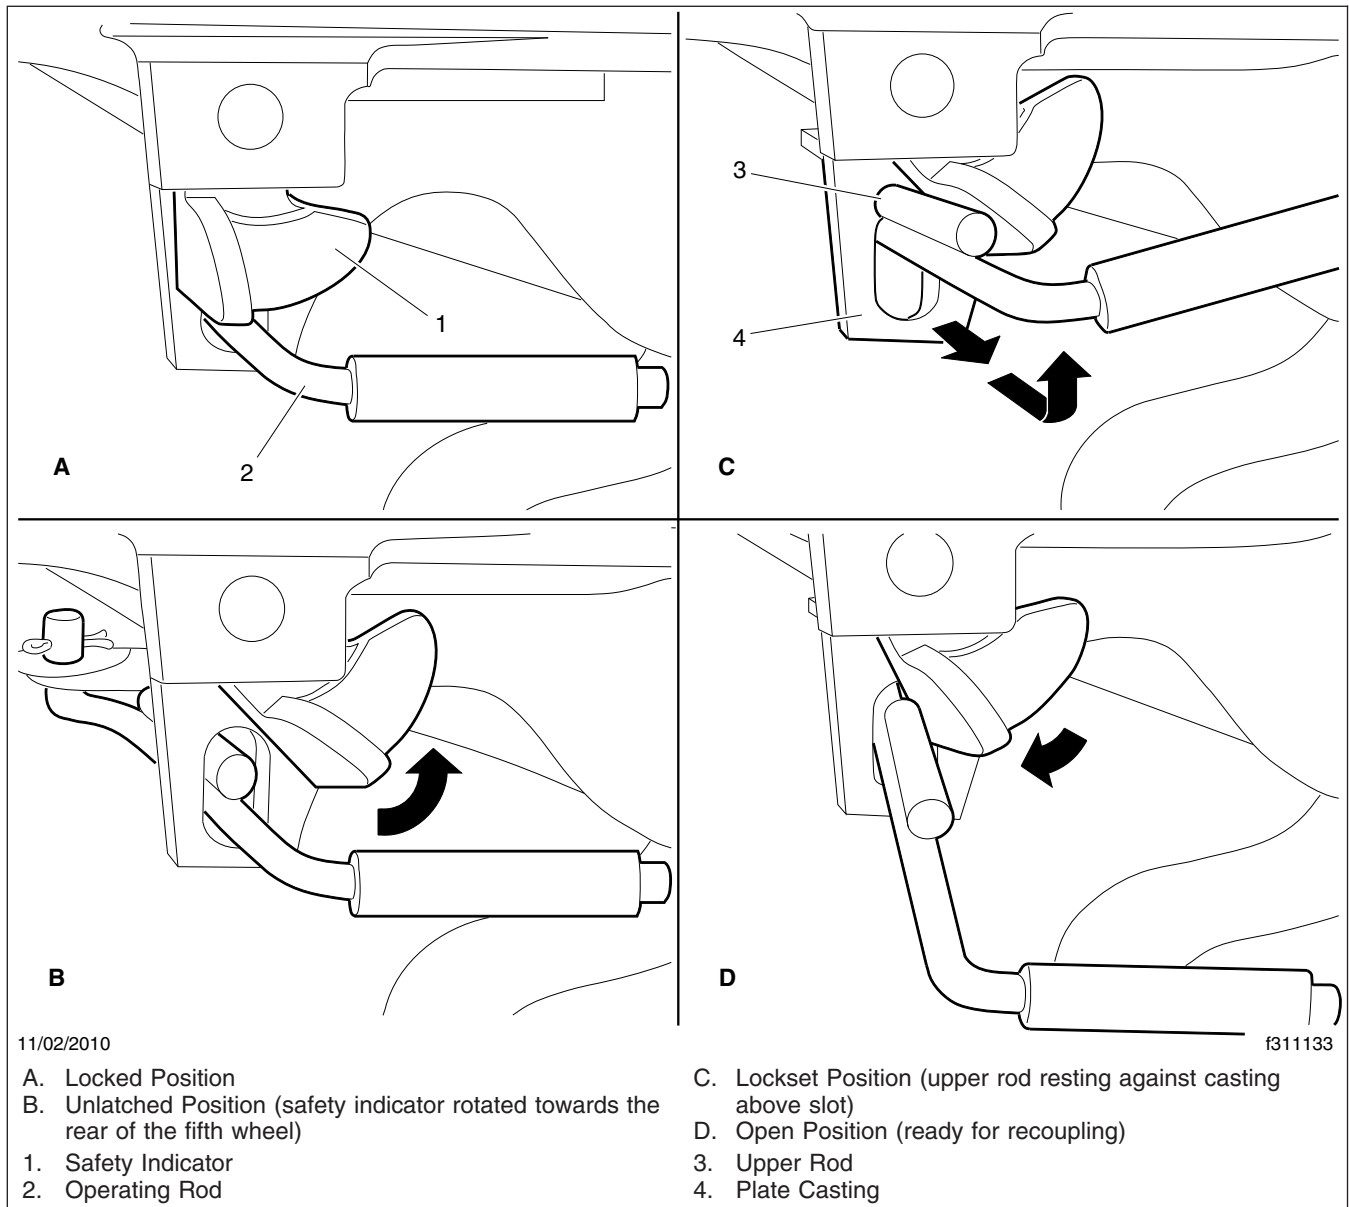

Fig. 18.9, Holland Kingpin Locking Mechanism
- 7.2 **Holland:** In the locked position the safety indicator swings freely over the operating rod. See Fig. 18.9, View A.
To unlock the mechanism, manually rotate the safety indicator toward the rear of the fifth wheel. See Fig. 18.9, View B.
Pull the operating rod out. When the upper operating rod shoulder is outside the slot, raise the handle and place the shoulder of the upper rod against the plate casting, above the slot. See Fig. 18.9, View C.
The fifth wheel is now in the lockset position and is ready for uncoupling. As the tractor pulls away from the trailer the kingpin forces the jaw to rotate, contacting the lock. Continued rotation of the jaw forces the lock to move outward, and drops the upper rod back into the slot. See Fig. 18.9 View D. The wheel is now ready for coupling.